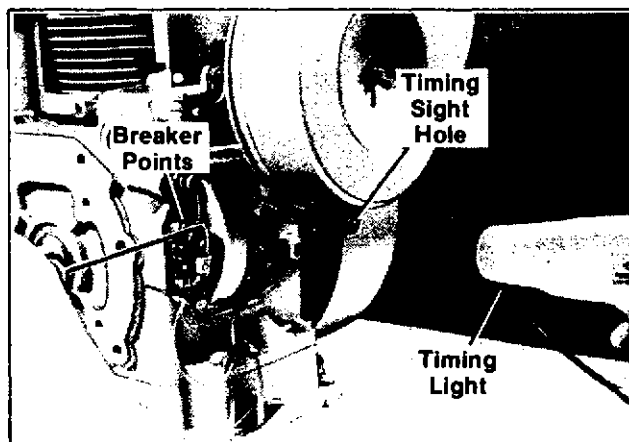

Figure 5-7. Timing Light Method
- Start engine, run at 1200-1800 RPM, aim timing light into sight hole - light should flash just as S mark is centered in sight hole or even with center mark on bearing plate or blower housing (see Figure 5-7).